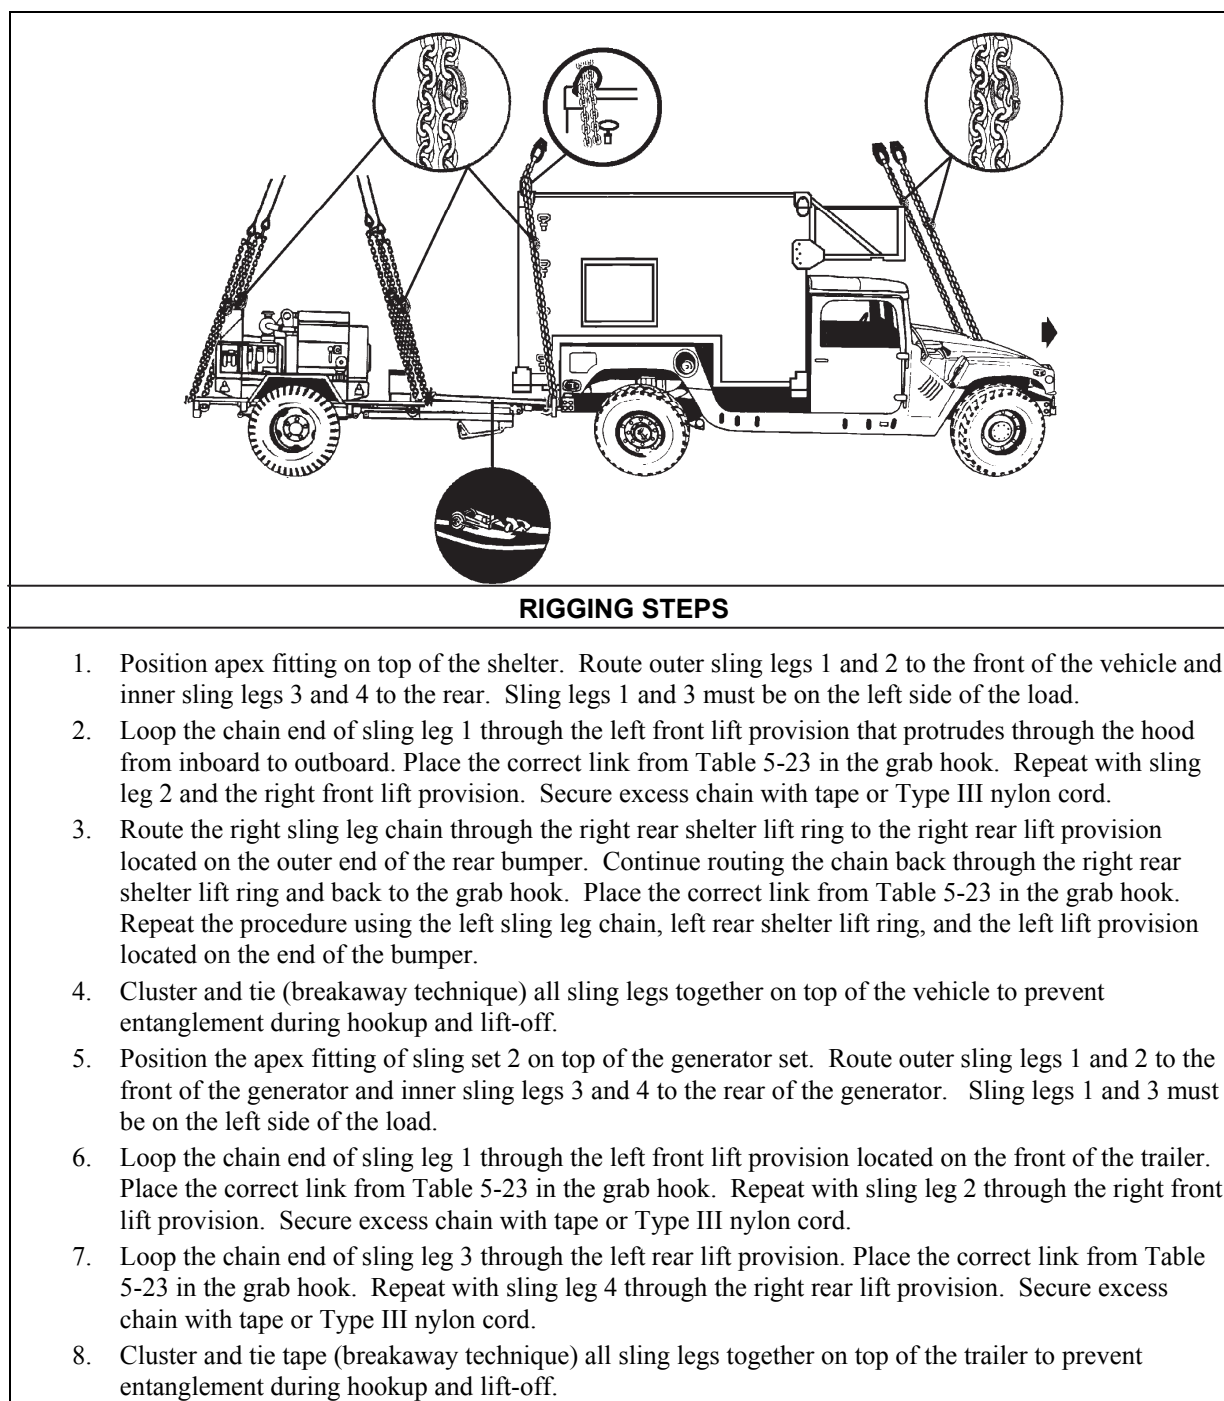

Figure 5-23. M113 Shelter Carrier with LMS Shelter Using Shelter Lift Rings as Sling Guides and PU-798 Generator on M116A3 Trailer
- **Rigging.** Rig the load according to the steps in Figure 5-23.